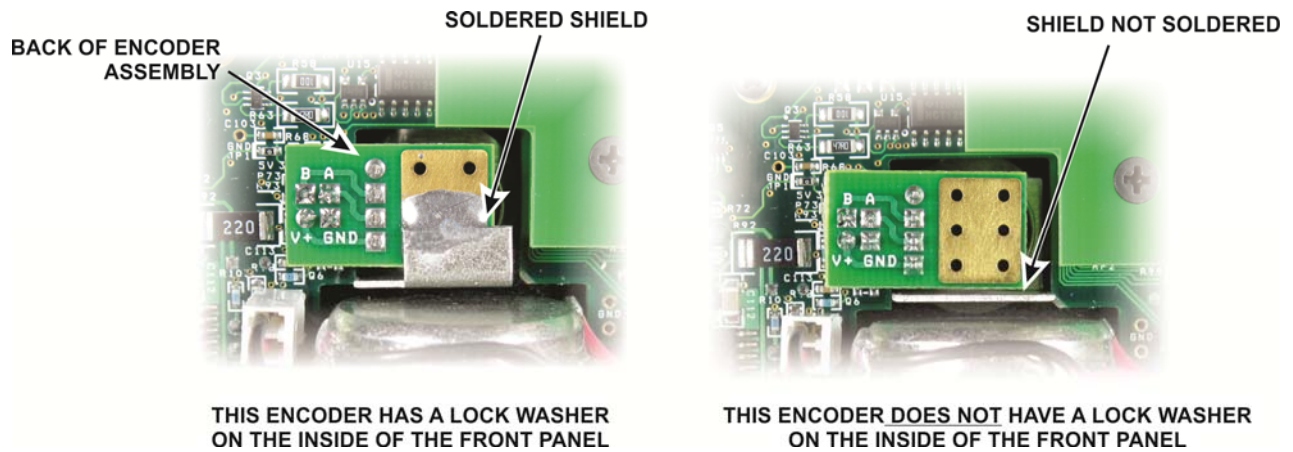

Figure 3. Encoder Types.
- The encoder plugs into the CP board and is easily removed with a little pressure on the shaft. If your encoder has the soldered shield (Figure 3), hold the KX3 with the encoder pointing upward as you pull the encoder shaft out of the hole in the front panel to be sure the lock washer does not fall off and become lost between the CP board and the front panel.